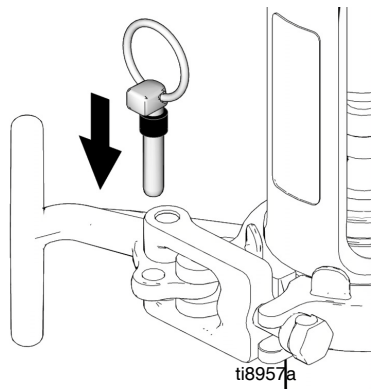

FIG. 22
3 (Fig. 22) Close clamp (247) around pump (111) and push it closed.